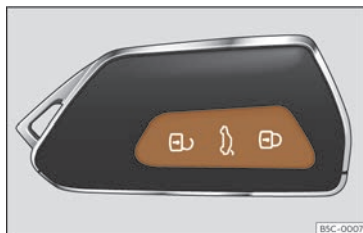

Fig. 75 Remote control key: keys.
- Lock: press the  button >>> **Fig. 75**.